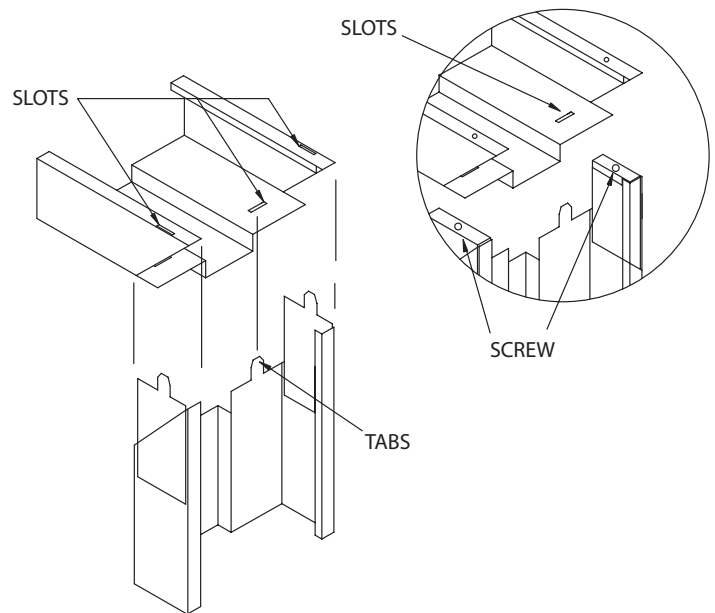

FIGURE 19B
4. Join the horizontal header to the jambs., Figure 19b . This is normally done by inserting tabs into the slots, or screws into the holes or a combination of both.